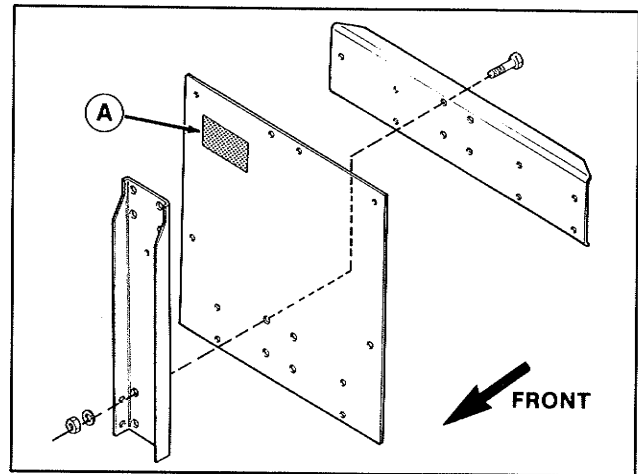

Figure 1. Decal Installation
1. Decal Installation - Refer to figure 1
After assembling the heat shields, the enclosed "Warning - Hot Surfaces" decal must be applied to the front surface (facing the operator) as shown in figure 1 (approximately 1 1/2" down from top of shield and 1/12" from upright support).